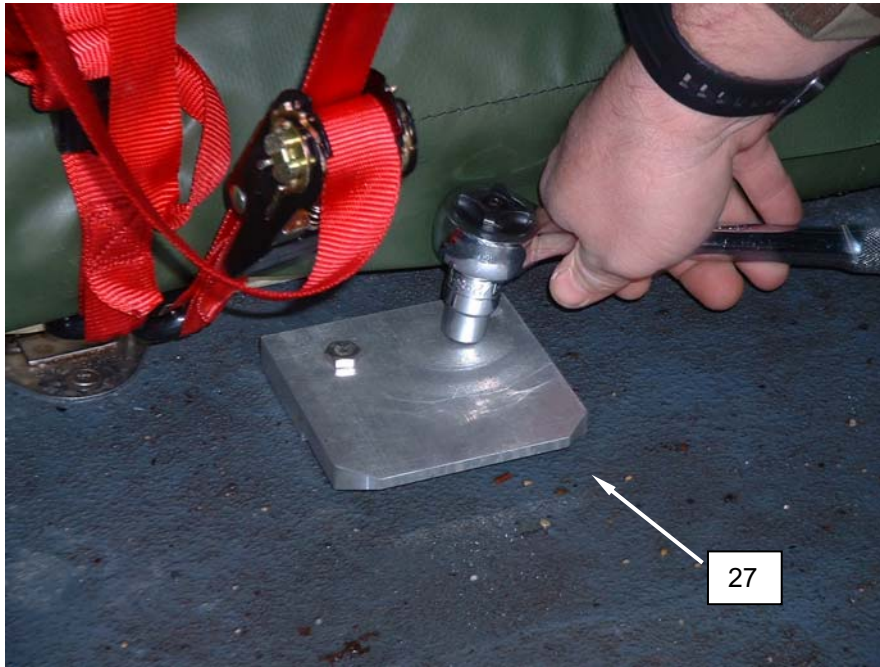

Figure 23. Install Retaining Brackets.
34. Install the retaining brackets (**Figure 23, Item 27**) into the centerline CBL interior floor.